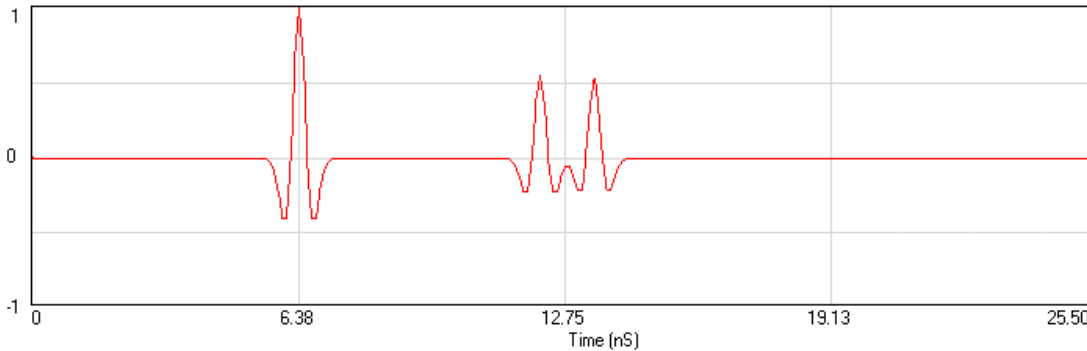

Fig. 4 Simulation of a microwave antenna resolving thin layers
3. Press the simulate button and a trace like in figure 4 should appear.